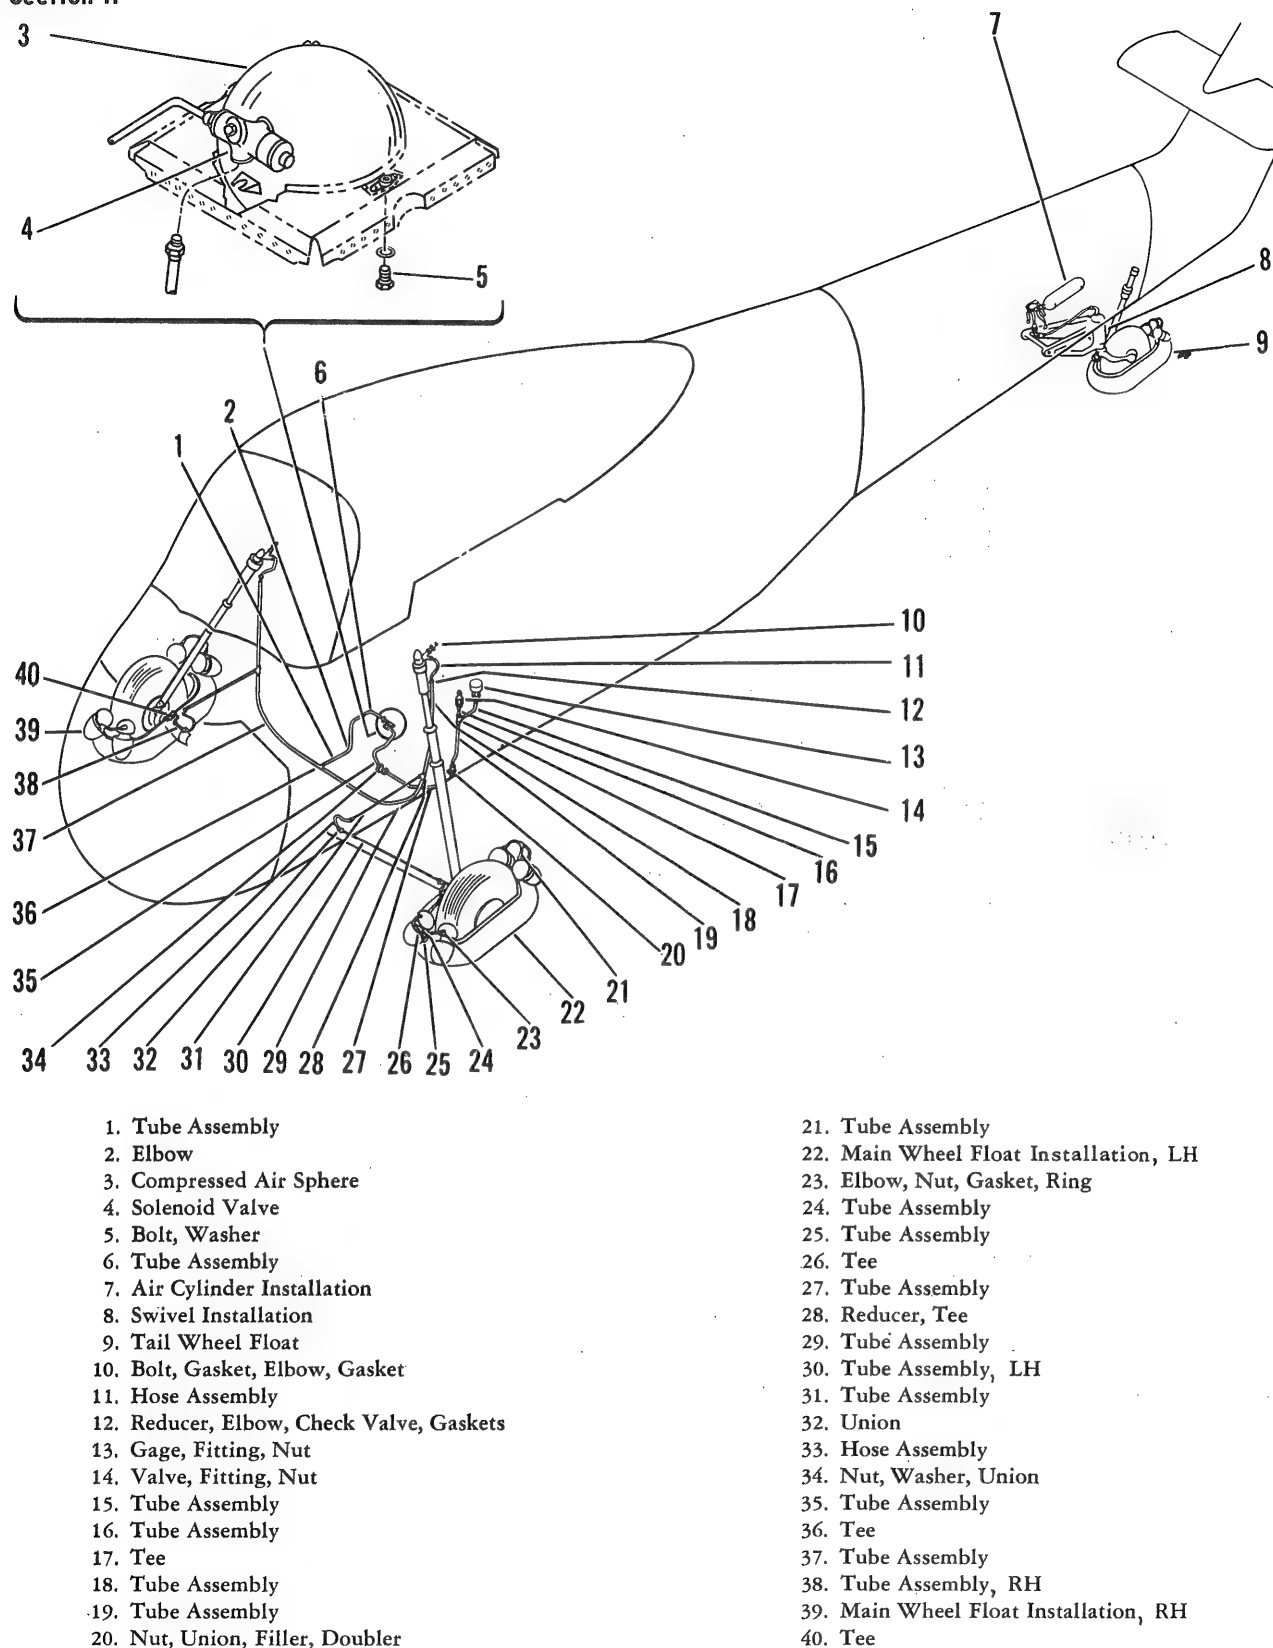
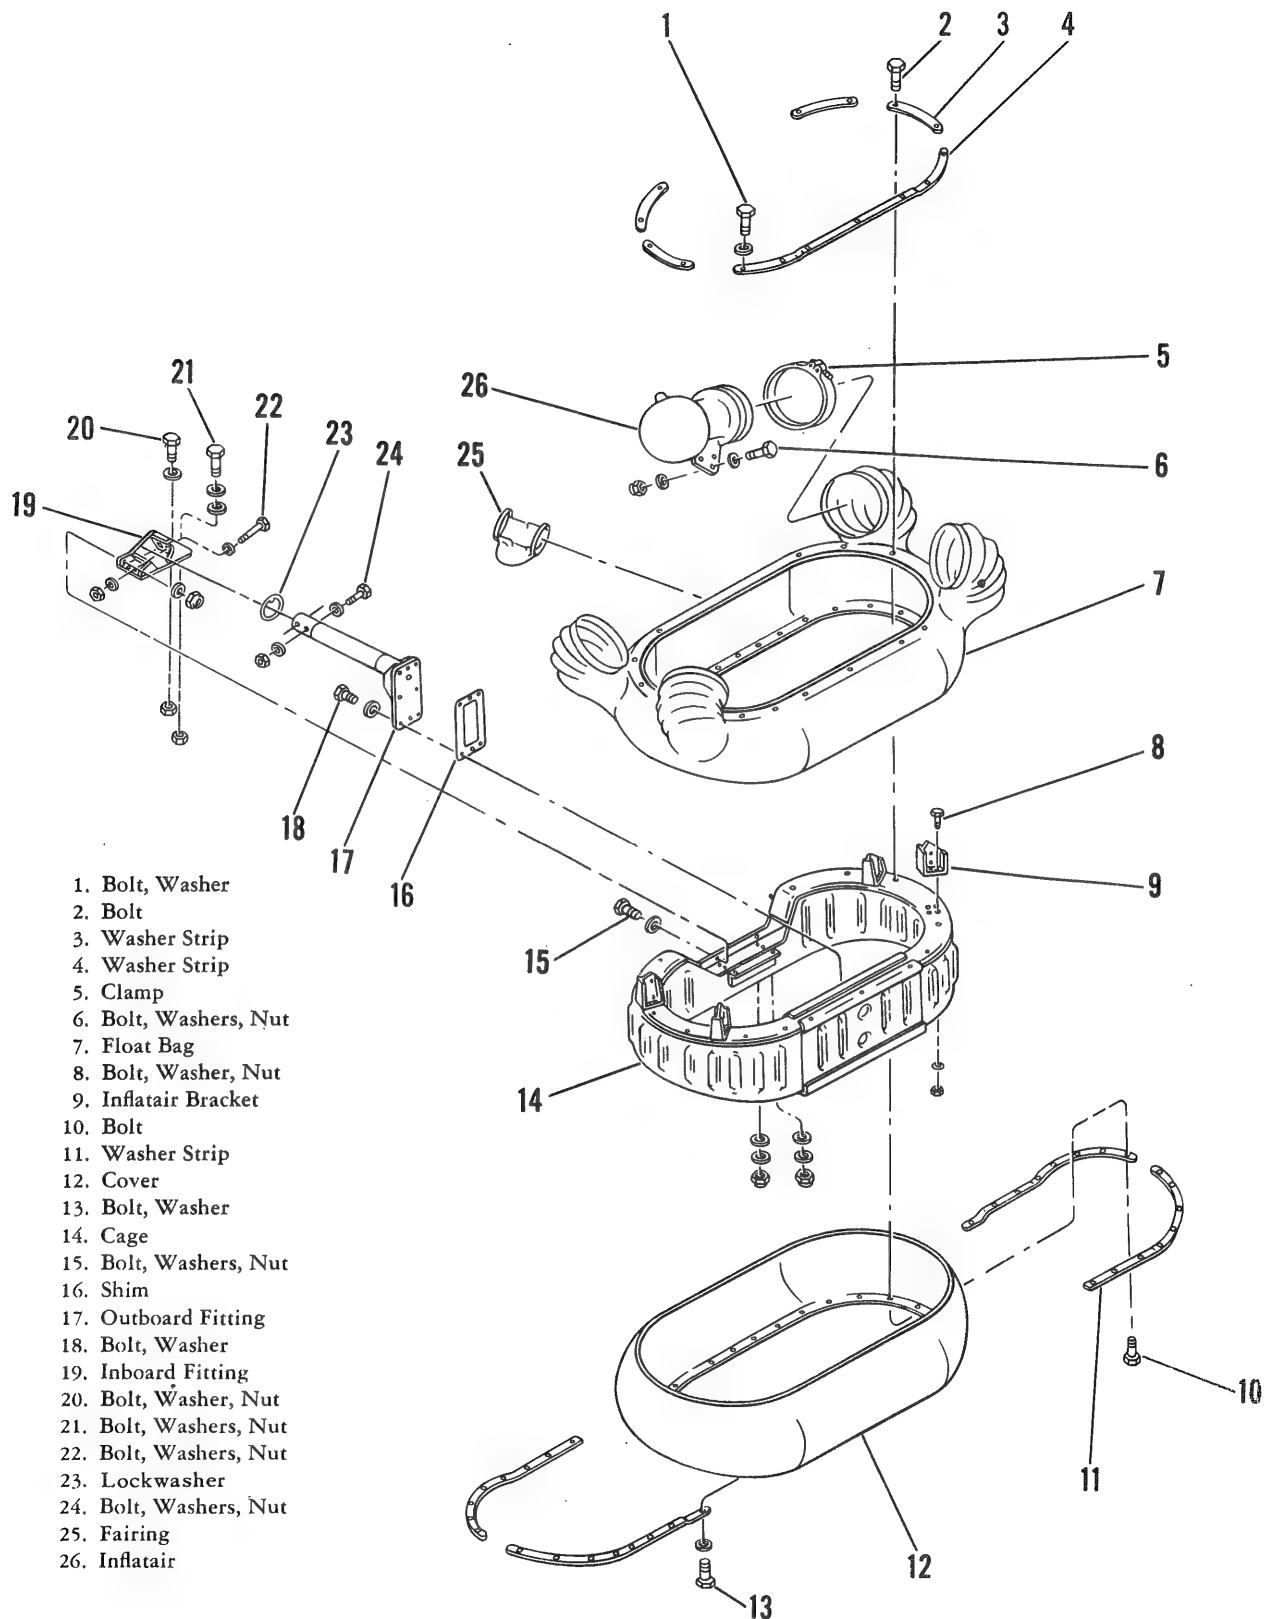

Figure 2-4. Emergency Flotation Gear Installation
Figure 2-7. Main Wheel Float Removal and Disassembly
2-34. DESCRIPTION. (See figures 2-4 and 2-5.) On helicopters serial No. 56-4316, 56-4320, 57-1684, and 57-1697, the emergency flotation gear installation consists primarily of two main wheel floats, a tail wheel float, a compressed air sphere, an air cylinder installation, a swivel installation, and the necessary valves, tubing, wiring, and brackets. The system is armed by the ARM SW arming switch located on the instrument panel next to the pilot's rate-of-climb indicator. The EMER FLOT WARN light goes on to indicate that the system is armed. The system is activated by the EMER FLOT switch on the pilot's cyclic control stick which activates the solenoid valves on the air containers. Provisions are made for a switch on the copilot's cyclic control stick. In operation, high pressure air is fed through lines to the Inflatairs on the floats. Some of the compressed air is routed into the shock struts to extend them to their maximum length. The passage of air through the venturi in the Inflatairs causes the floats to inflate with atmospheric air. Operation of the helicopter with floats inflated is restricted to emergency landing on water. Power for the emergency flotation circuit is provided by the primary bus through the circuit breaker, marked EMER FLOT, on the overhead control panel.
2-37. REMOVAL. (See figures 2-4 and 2-7.)
a. Disconnect and remove air lines at union (32, figure 2-4) and at Inflatairs (26, figure 2-7).
d. Support float assembly and remove bolts and washers (18, figure 2-7) which secure outboard fitting (17) and shim (16) to cage (14).
e. Remove bolts that secure inboard fitting (19) to axle. Remove float bag (7), Inflatairs (26), and cage (14) as a unit.
f. Remove remaining bolts, washers, and nuts (24) from axle and outboard fitting (17). Pull out outboard fitting. Slide off lockwasher (23).
g. Remove bolts that secure Inflatairs (26) to Inflatair brackets (9).
b. Remove clamps (5) which secure Inflatairs (26) to float bag (7) and remove Inflatairs.
j. Remove bolts (2 and 10), bolts and washers (1 and 13), and washer strips (3, 4, and 11) which attach float bag (7) to cage (14). Remove float bag. Peel off cover (12).
k. Remove bolts, washers, and nuts (15, 20, and 21) which attach inboard fitting (19) to cage (14). Remove inboard fitting.
l. Remove bolts and washers (18) which attach Inflatair brackets (9) to cage (14). Remove brackets.
m. Unbuckle strap and remove fairing (25) covering tiedown ring.
p. Apply anti-seize compound, Federal Specification TT-A-580, to all threads and connect air lines at union (32, figure 2-4) and at Inflatairs (26, figure 2-7).
a. Position and buckle the fairing (25, figure 2-7) over tiedown ring.
b. Bolt Inflatair brackets (9) to cage (14).
c. Bolt inboard fitting (19) to cage (14).
d. Attach float bag (7) and cover (12) to cage (14) with bolts (2 and 10), bolts and washers (1 and 13), and washer strips (3, 4, and 11).
e. Install Inflatairs (26) in float bag (7) and secure with clamps (5).
j. Install outboard fitting (17) in axle with lockwasher (23) riding on axle. Position tang on lockwasher (23) in keyway. Align holes in fitting and axle and install bolt, washers, and nut (24) through outboard hole.
k. Position and support flotation gear and align outboard hole in inboard fitting (19) with remaining hole in axle and outboard fitting (17). Bolt inboard fitting (19) to axle, and outboard fitting (17) and shim (16) to cage (14).
n. Apply anti-seize compound, Federal Specification TT-A-580, to all threads and connect air lines at union (32, figure 2-4) and at Inflatairs (26, figure 2-7.)